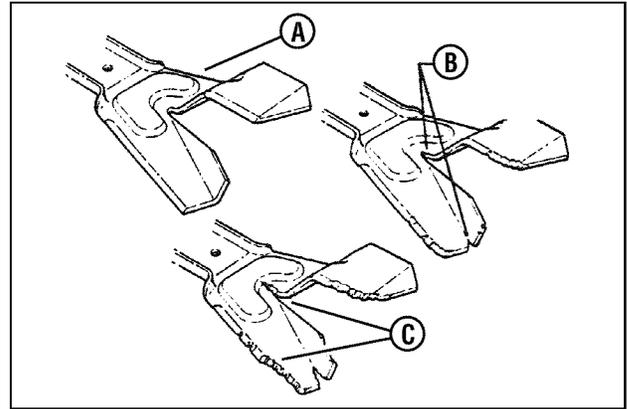

Figure 21: Ninja blade wear limits
1. Inspect the blade (Figure 21) frequently for signs of excessive wear or damage:
- (A) New blade
- (B) Wear limit (cracks or notches begin to appear on tip)
- (C) Dangerous condition! Do not use on the mower! Replace with a new blade.